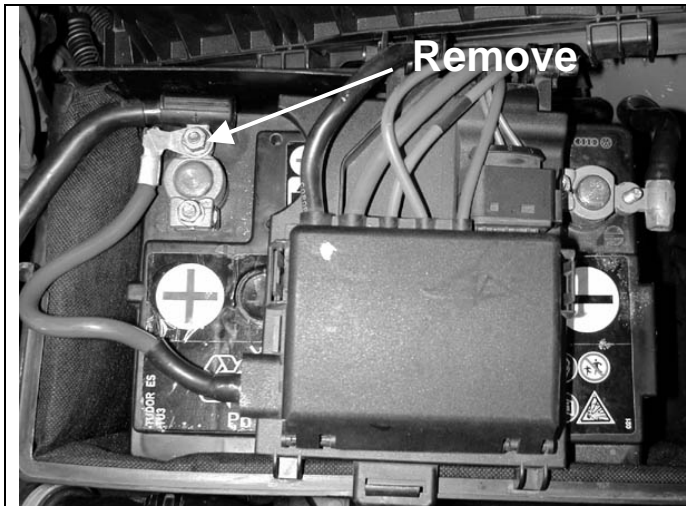

Fig. 1
- d) Lift the plastic battery cover and disconnect both battery terminals. Remove the short positive lead from the positive battery terminal. **(Fig. 1)**